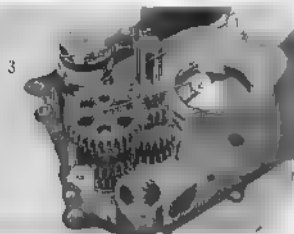

Fig. 3.103 Reassembling the transmission
3. Install the transmission main shaft, counter shaft, gear shift drum assembly on the left crankcase. (Fig. 3.103)